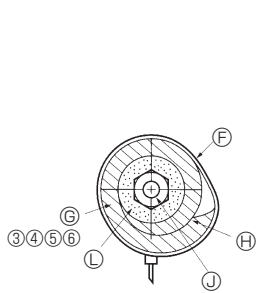
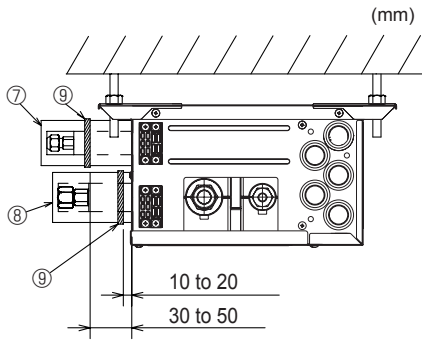

Fig. 7-3
Fig. 7-4
- (1) Remove the flared nuts and caps from the branch box.
- (2) Flare the ends of the liquid and gas piping, and apply refrigeration oil (procure locally) to the flared seat. Do not apply oil to the threaded portion.
- (3) Connect the refrigerant piping immediately. Always tighten the flared nuts to the torque specified in the table 2 using a torque wrench and double spanner.
- (4) Press the pipe covers ③ and ⑤ on the liquid piping against the unit and wrap to hold in place. (Fig. 7-3)
- (5) Press the pipe covers ④ and ⑥ on the gas piping against the unit and wrap to hold in place. (Fig. 7-3)
- (6) Apply the supplied bands ⑨ at a position 10 - 20 mm from each end of the pipe covers (③④⑤⑥).
- (7) If the indoor unit is not connected, fit the supplied pipe covers (with caps, ⑦ and ⑧) to the branch box refrigerant piping connections against the unit to prevent condensation dripping from the pipes. (Fig. 7-4)
- (8) Clamp the pipe covers (⑦⑧) in place with the supplied bands ⑨.
- ⓑ Band ⑩
- ⓐ Pipe covers ③④⑤⑥
► Use the following procedures for indoor connection part which indoor unit is not connected. (Fig. 7-4)
- (1) In order to prevent refrigerant leaks, make sure that the flare nuts are tightened according to the specified torques* in Table 3.
- (2) In order to prevent condensation, install the pipe covers ⑦ ⑧ against the unit and fasten them with the supplied bands ⑩ .